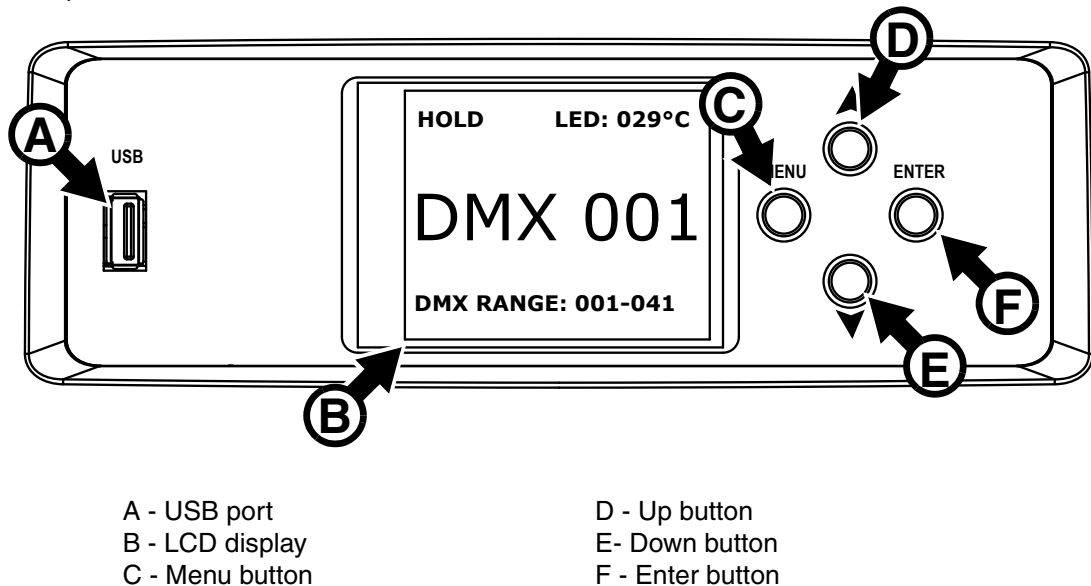

Figure 5: Display and control panel
When the ERA 600 Performance is powered on, it boots and carries out a reset. Then it shows the default information display shown in Figure 5:
- 'No data' mode setting (in Figure 5 it is set to HOLD)